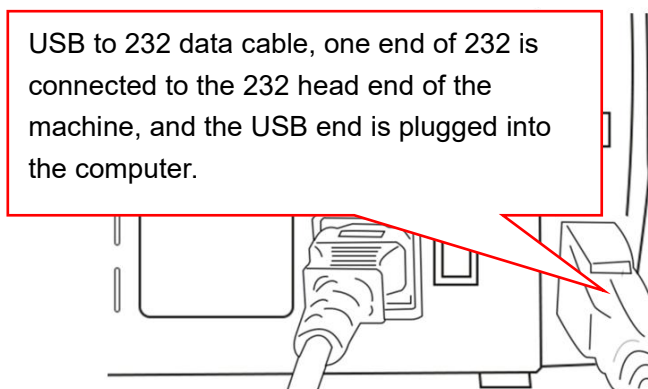

Figure 59
6) When the external printer has been connected and can be printed, after counting, press the “” key to enter the detail list checking interface, and then press the “” key or touch the “” key, the printer will print the detail and total amount of counting. The format printed is shown in Figure 59 below.
Take a USB to 232 serial cable, connect the USB end to the PC, and insert the 232 serial end into the machine, as shown in Figure 59